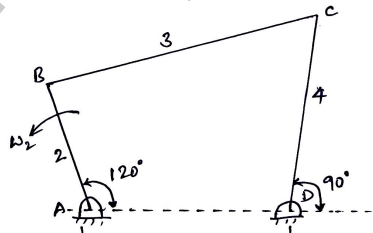

Fig.Q5
- 5 The four bar mechanism ABCD is shown in Fig.Q5 which is driven by link 2 at  $\omega_2 = 45\text{ rad/sec}$  counter clockwise. Find the angular velocities of links 3 and 4 by using complex algebra method. Take  $AB = 100\text{ mm}$ ,  $CD = 300\text{mm}$ ,  $AD = 250\text{mm}$ .